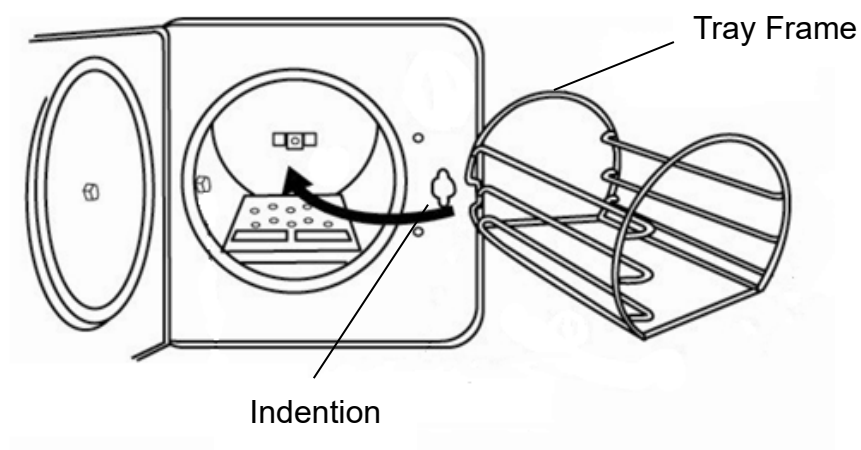

Figure 30
D. Install the tray frame as Figure 30 (optional accessory).
**Caution:** The frame should be installed as Figure 30 below. The indentation of the frame will pass the bushing in the chamber.